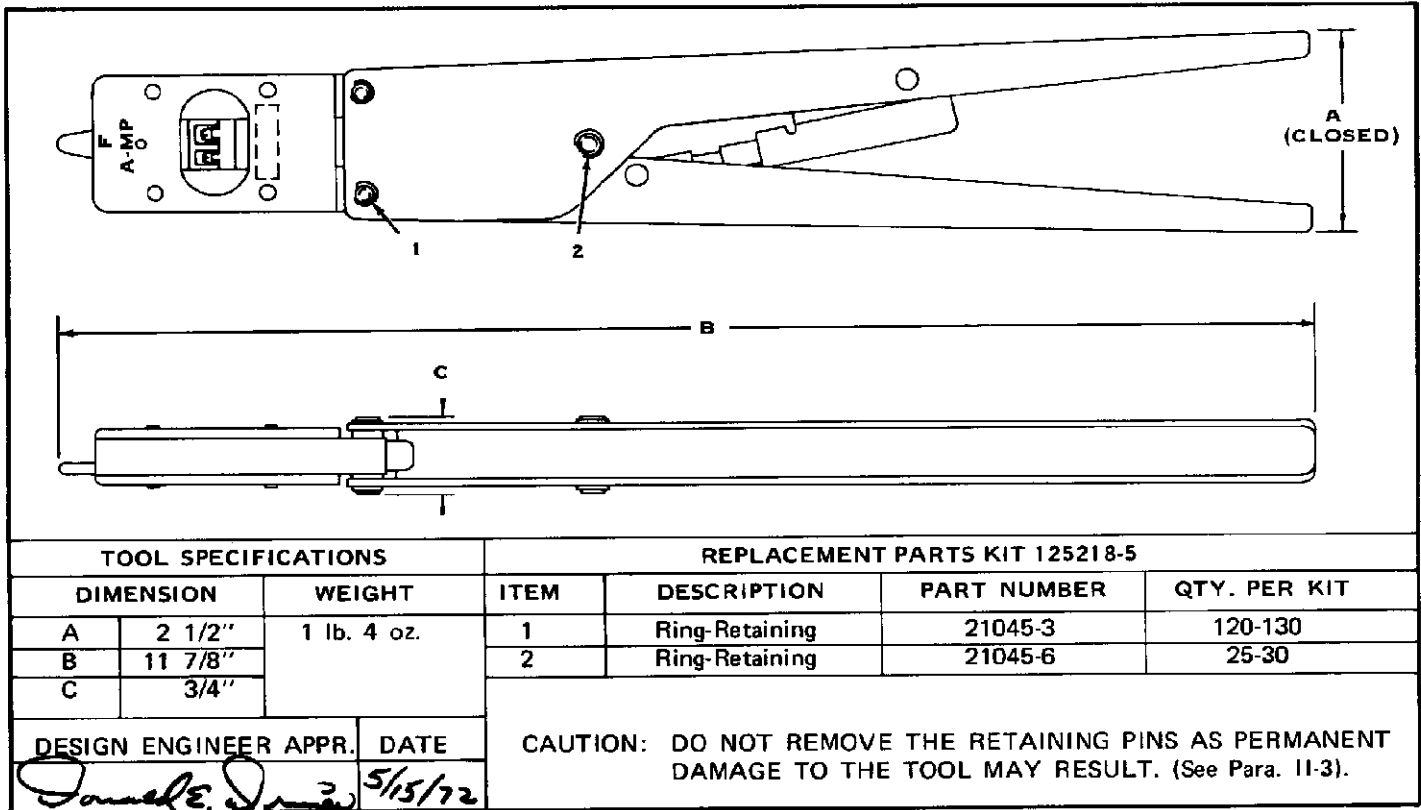

FIGURE II-1
The parts listed in Figure II-1 are customer replaceable parts. A complete inventory should be stocked and controlled to prevent lost time when replacement of parts is deemed necessary. When ordering, order the replacement parts kit listed in Figure II-1.
2. Make certain all retaining pins are in place and secured with retaining rings. Refer to parts listed in Figure II-1 if replacements are necessary.
Parts other than those specified in Figure II-1 must be replaced by AMP to insure certification of the tool. When repair is necessary return the tool and a written description of the problem to: